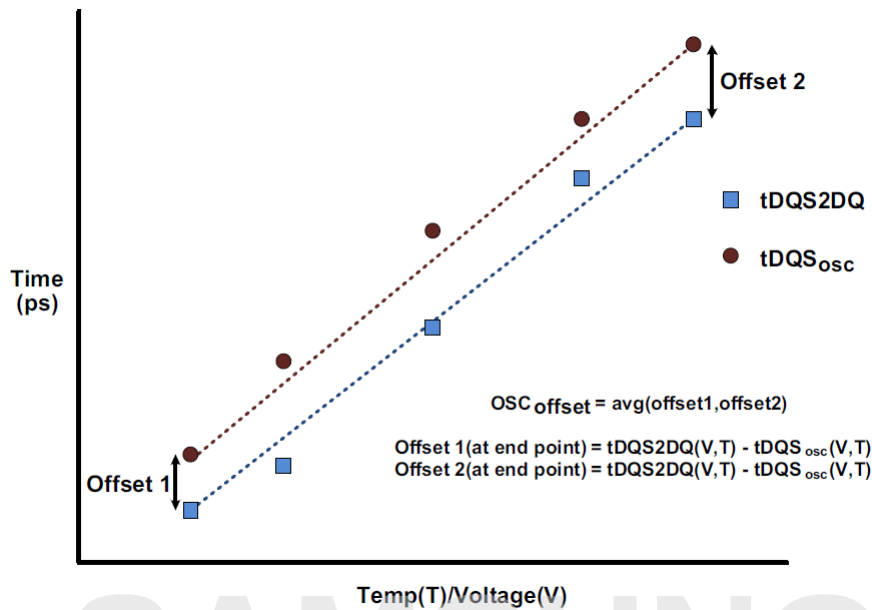

Figure 116. Interval oscillator offset OSC offset
- OSC_{Offset} : Average delay difference over voltage and temp (shown in Figure 116)